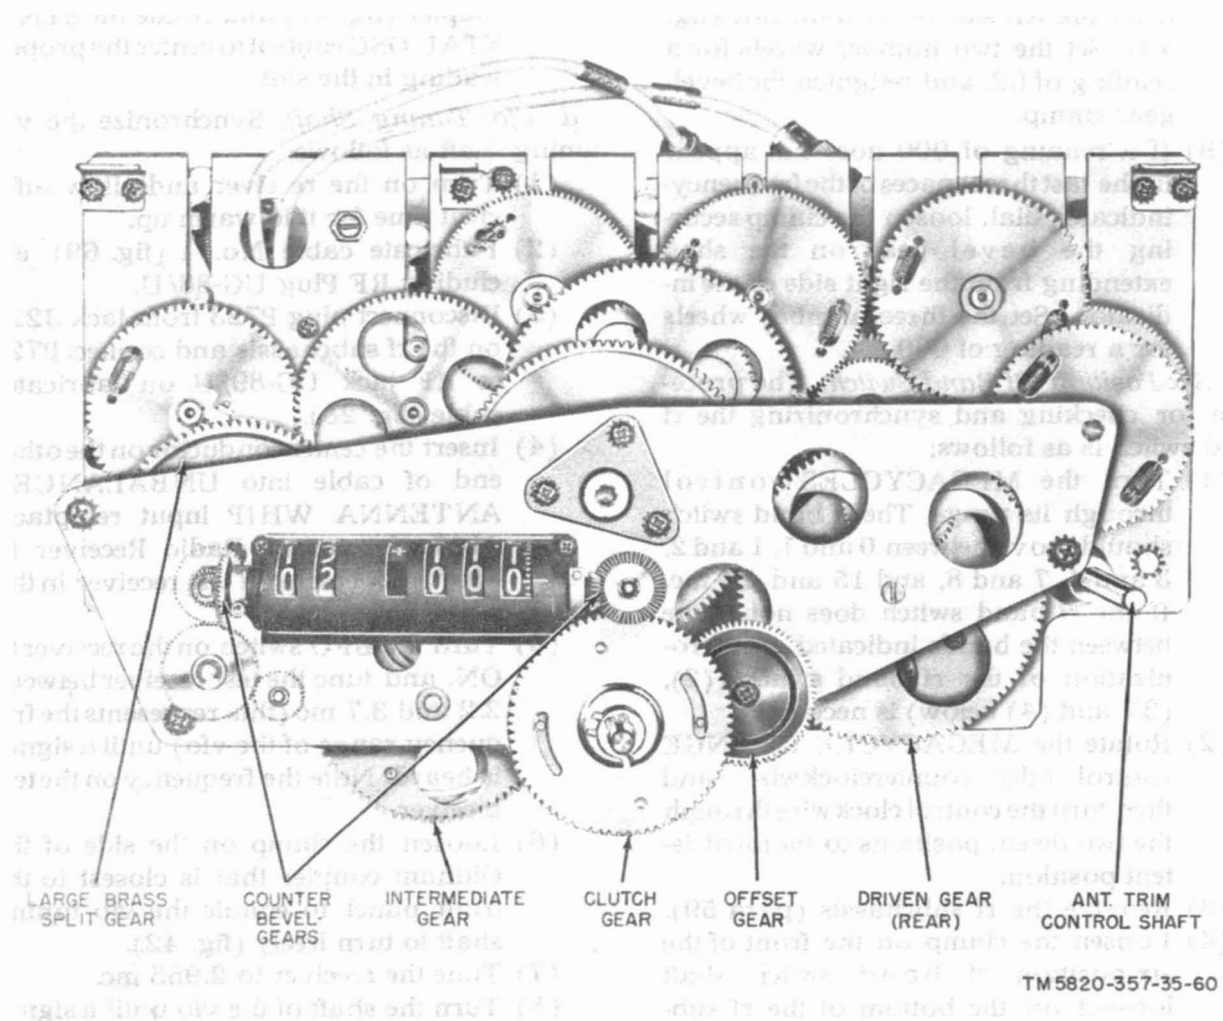
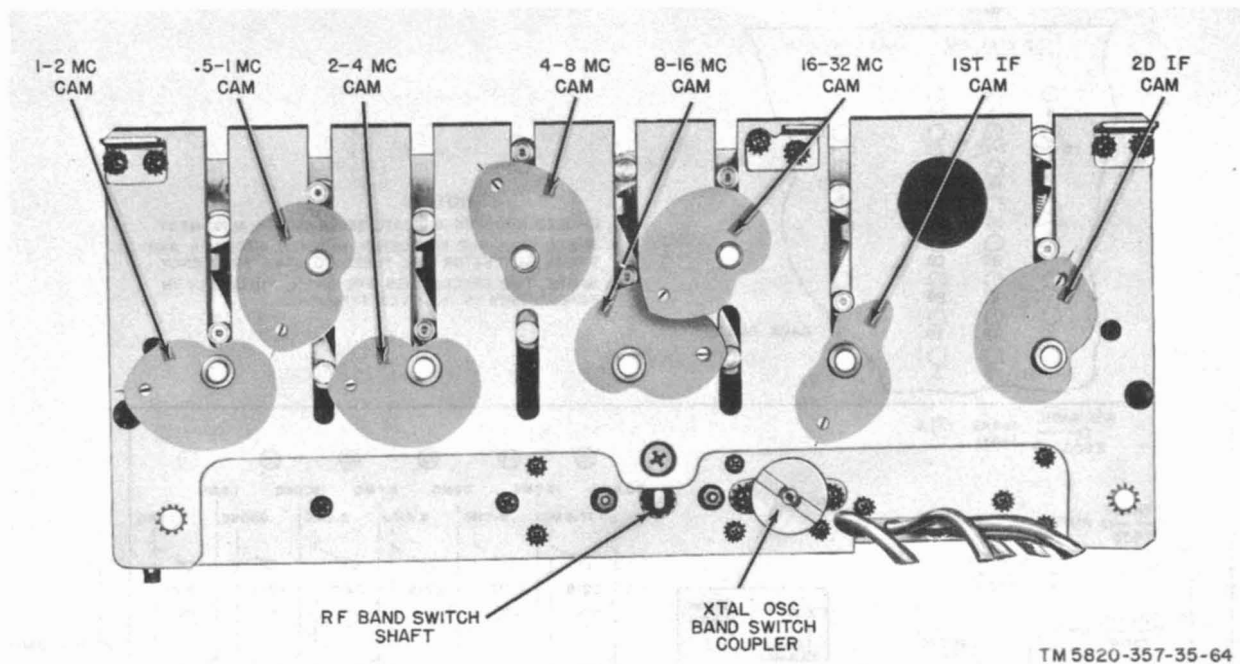

Figure 43. Location of gears.
Figure 44. Location of cams.
(fig. 43 and 44)
*a. Camshafts.* The camshafts are synchronized properly if the index lines etched on the rear plate of the rf subchassis bisect the holes in each of the rear cams (fig. 44) when the frequency-indicator reading is 02 000. To synchronize the rf subchassis when it is removed from the cabinet, rotate the large brass split gear and the clutch gear (fig. 43) to positions where the frequency-indicator reading is 02 000. If the index lines do not bisect the holes, follow the procedure outlined in (2) through (7) below. Before replacing the rf subchassis (para 59*b*), rotate the two gears mentioned above to positions where the first two digits on the frequency indicator indicate halfway between 99 and 00, and the last three digits read -972. (Note the minus sign.) When the rf subchassis is in the cabinet, proceed as follows:
- (1) Check the 10-turn stop by rotating the MEGACYCLE CHANGE and the KILOCYCLE CHANGE controls fully counterclockwise. The frequency indicator should read halfway between 99 and 00 (off detent position) and -972. (Note the minus sign.) Check the reading on the crystal-oscillator
band switch position indicator to see that it agrees with the reading on the megacycle portion of the frequency indicator. If it does not agree, loosen the Oldham coupler clamp (fig. 41) on the crystal oscillator and turn the SYNC XTAL OSC control on the rear panel (TM 11-5820-357-10) until the two readings agree. Tighten the clamp on the Oldham coupler. Check the synchronization of each band by noting the position of the cam rollers at the end frequencies of each band. The position of the 1- to 2-mc band cam shown in figure 44 represents the correct position for the low end of the band. The position of the second if. cam shown in figure 44 represents the correct position for the high end of the band (the last three digits of the frequency indicator should read 999). If all the cams are out of synchronization, set the 8- to 16-mc cam first.
- (2) If the 1- to 2-mc camshaft (fig. 44) is not positioned properly, loosen the clamp on the front of the shaft and rotate the rear cam until the index line bisects the hole in the cam. Tighten the clamp.
- (3) Position the camshaft for .5- to 1-mc slug rack (fig. 44), if necessary, in the same manner as described in (2) above.
- (4) Check the position of the 8- to 16-mc camshaft. If it is not aligned properly, loosen the clamp on the front of the 2- to 4-mc shaft to position the 8- to 16-mc cam, since the gear for the 8- to 16-mc shaft is pinned through the shaft. After positioning the 8- to 16-mc cam, position the 2- to 4-mc cam while holding the 8- to 16-mc cam in place; then tighten the clamp on the 2- to 4-mc shaft.
- (5) If necessary, position the 4- to 8-mc and 16- to 32-mc cams (fig. 44) in the same manner as described in (2) above.
- (6) To position the first variable if. cam (fig. 44), loosen the clamp nearest the front plate of the rf subchassis on the crystal-oscillator band switch shaft. adjust the position of the cam; then tighten the clamp.
- (7) Position second variable if. cam (fig. 44), if necessary, in the same manner as for the 1- to 2-, .5- to 1-, 4- to 8-, and 16- to 32-mc cams.
- (8) Check the reading of the frequency indicator. If a reading of 02 is not centered within the two left-hand spaces of the indicator, loosen the clamp on the bevel gear on the shaft extending from the left side of the indicator (fig. 43). Set the two number wheels for a reading of 02, and retighten the bevel-gear clamp.
- (9) If a reading of 000 does not appear in the last three spaces of the frequency-indicator dial, loosen the clamp securing the bevel gear on the shaft extending from the right side of the indicator. Set the three number wheels for a reading of 000.
contacts are centered at position 3 by inserting long-nosed pliers in the hole at the rear of the subchassis (fig. 44) and turning the shaft. Positions of the switch contacts are shown in the schematic diagram (fig. 74). Tighten the clamp after adjustment.